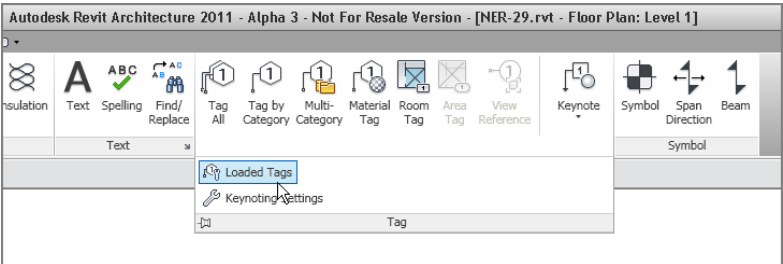

FIGURE 11.63: Click Loaded Tags.
- 10. On the Architecture tab in the title bar of the Tag panel is a pull-down arrow. Click the Loaded Tags button (see Figure 11.63).